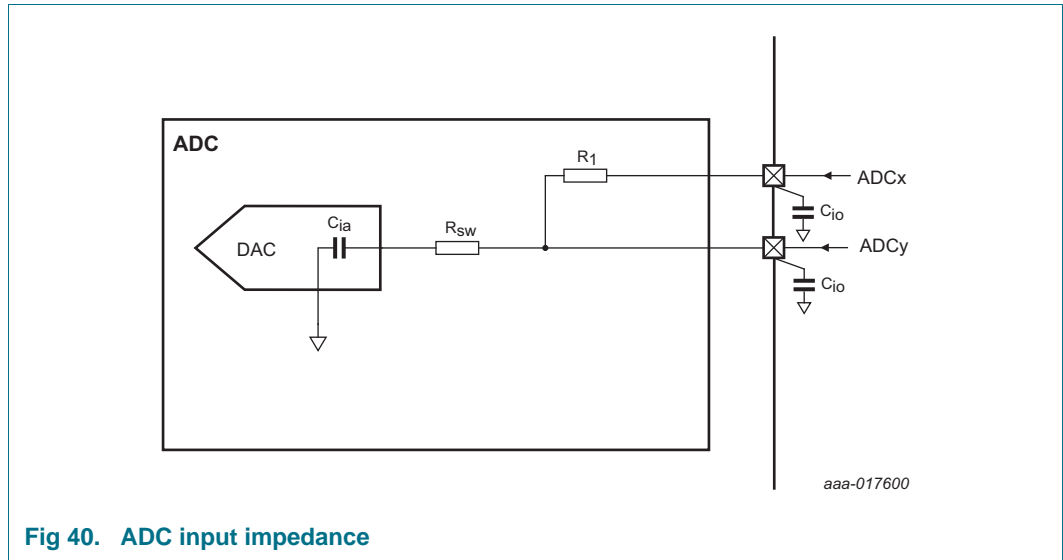

Fig 40. ADC input impedance
- [10] Input impedance Z_i is inversely proportional to the sampling frequency and the total input capacity including C_{ia} and C_{io} : $Z_i \propto 1 / (f_s \times C_i)$. See Table 21 for C_{io} . See Figure 40.
- (1) Example of an actual transfer curve.
- (2) The ideal transfer curve.
- (3) Differential linearity error (E_D).
- (4) Integral non-linearity ($E_{L(adj)}$).
- (5) Center of a step of the actual transfer curve.
Figure 40 shows the ADC input impedance. In this figure: